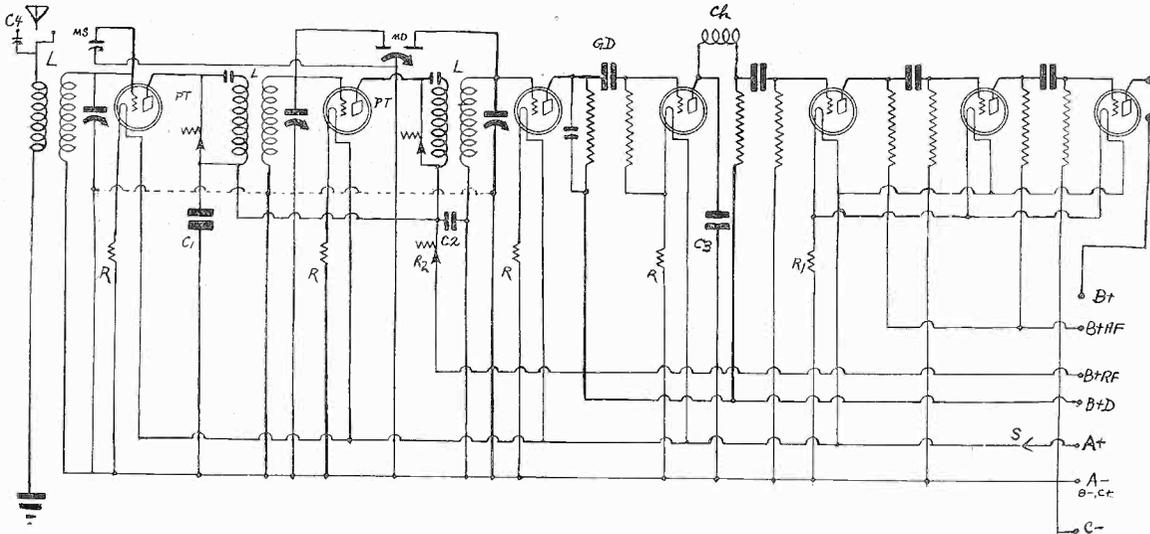

FIG. 2.
**S**IMPLICITY of control is fast becoming the watchword of set manufacturers. This does not apply only to the manufacturers, either, but also includes the individual set constructor. There have been few radical changes made in circuits but there seem to have been a few worthwhile kinks which have done much to improve the operation characteristics of the receiver. These have been incorporated in Planofier Seven (Fig. 2). These improvements were found quite the thing.